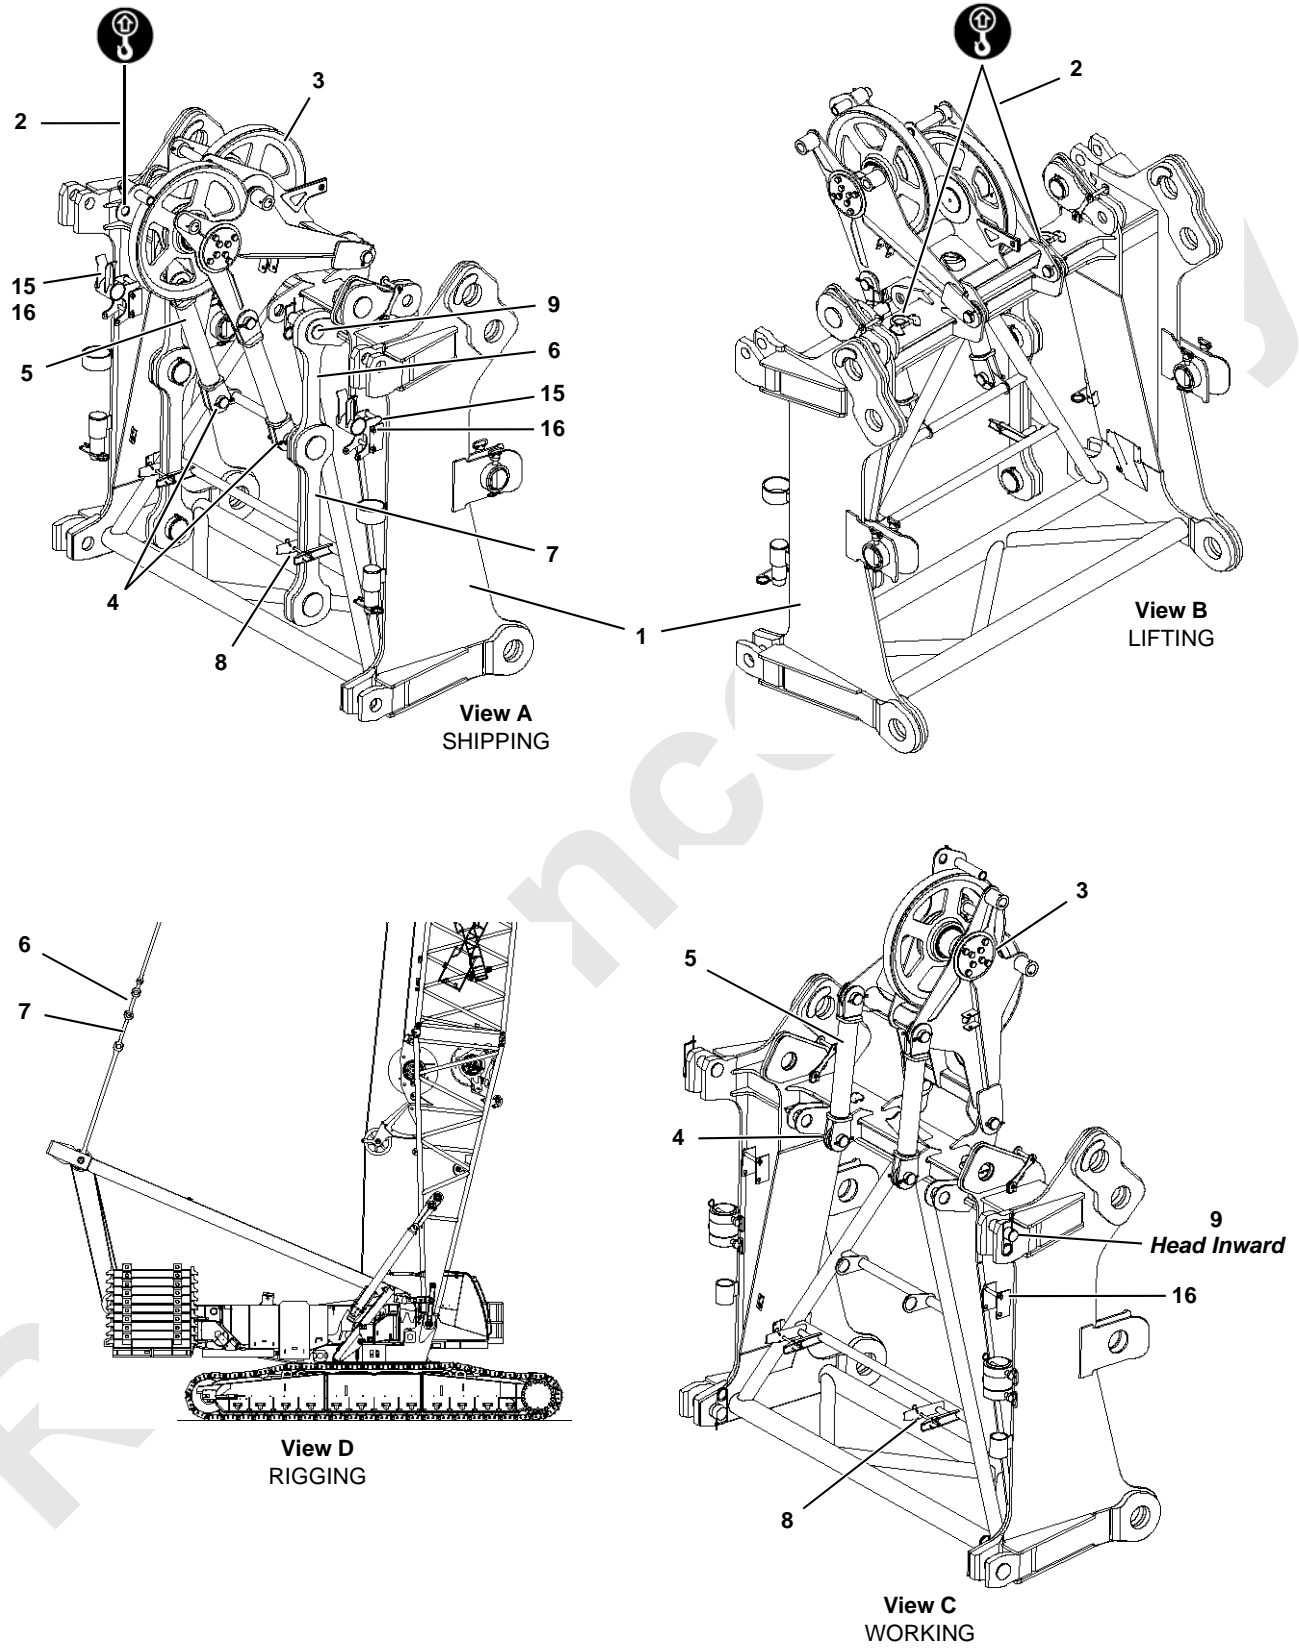

FIGURE 4-11
Legend for Figure 4-11, 4-12, and 4-13
See Figure 4-11 for following procedure.
See Figure 4-11, View A for following procedure.
1. Remove strap brackets (15, Figure 4-11, View A) from storage.
2. Store two pins (16, Figure 4-11, View C).
3-8	See Figure 4-11